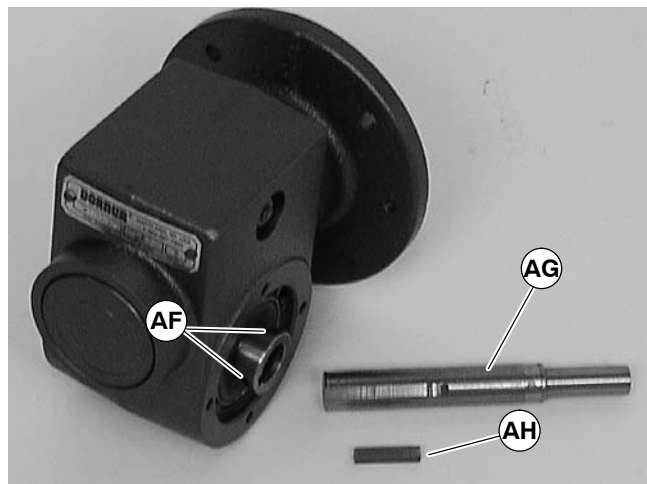

Figure 23
- Remove two (2) screws (AC) and detach output shaft cover (AD).
- Remove gear reducer output shaft key (AE).
- Loosen six (6) set screws (AF of Figure 23). Remove drive shaft (AG) and key (AH).
- Replace the original shaft components into new gear reducer (see Figure 23).